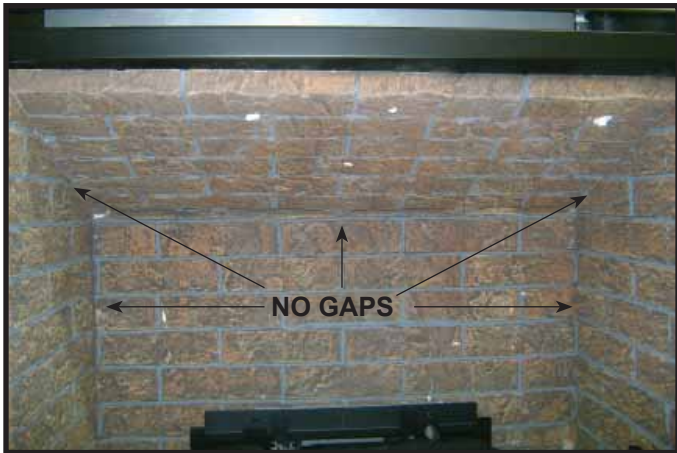

Figure 4. Top Refractory Panel Installed
6. Installation is complete when top refractory panel is set securely in place. Top refractory panel may need to be pulled down to fit correctly. Chamfers should properly fit together and gaps should be minimized with correct installation. See Figure 4.